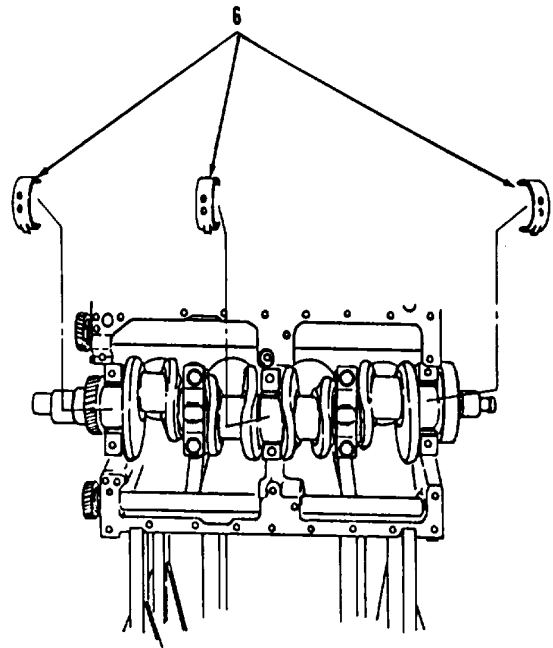

Figure 13-19.
11. Rotate crankshaft and tool against upper main bearings (6) in direction of normal engine rotation.
12. Remove and discard upper half of three main bearings (6, Figure 13-19).
4. Coat upper half of three main bearings (6, Figure 13-19) with clean engine oil.
5. Position three upper main bearings (6) in cylinder block above front, center and rear crankshaft journals with bearing tabs toward tab locators in block.